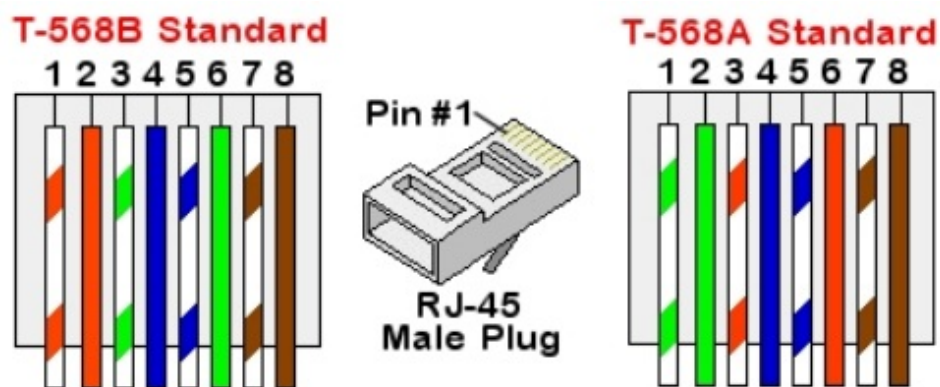

Figure 3: Standard cable wiring
- c. Insert the eight wires into an RJ45 connector (see Figure 3).
7. For the switch/router side, use a pre-crimped cable or use a crimper to prepare an RJ45 communication connector: Insert the eight wires into the RJ45 connector in the same order as above (see Figure 3).